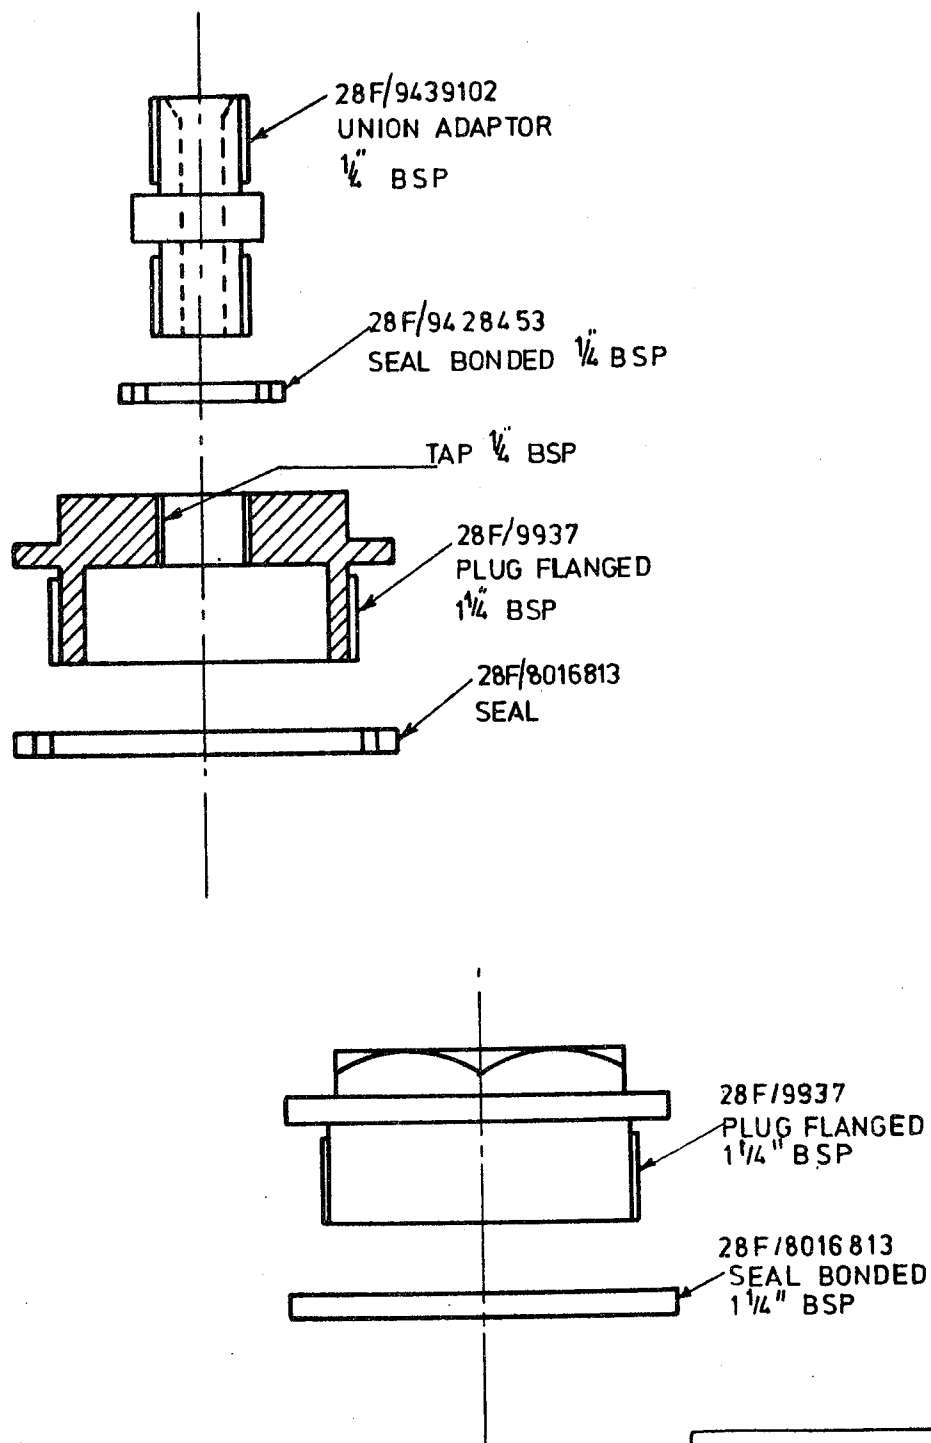

Fig. 3 Test adapter and blank
8.3 Fuel connection. Fit test blank. (Fig 3).
8.4 Adaptor (Fig 3). Fit to tank air connection.